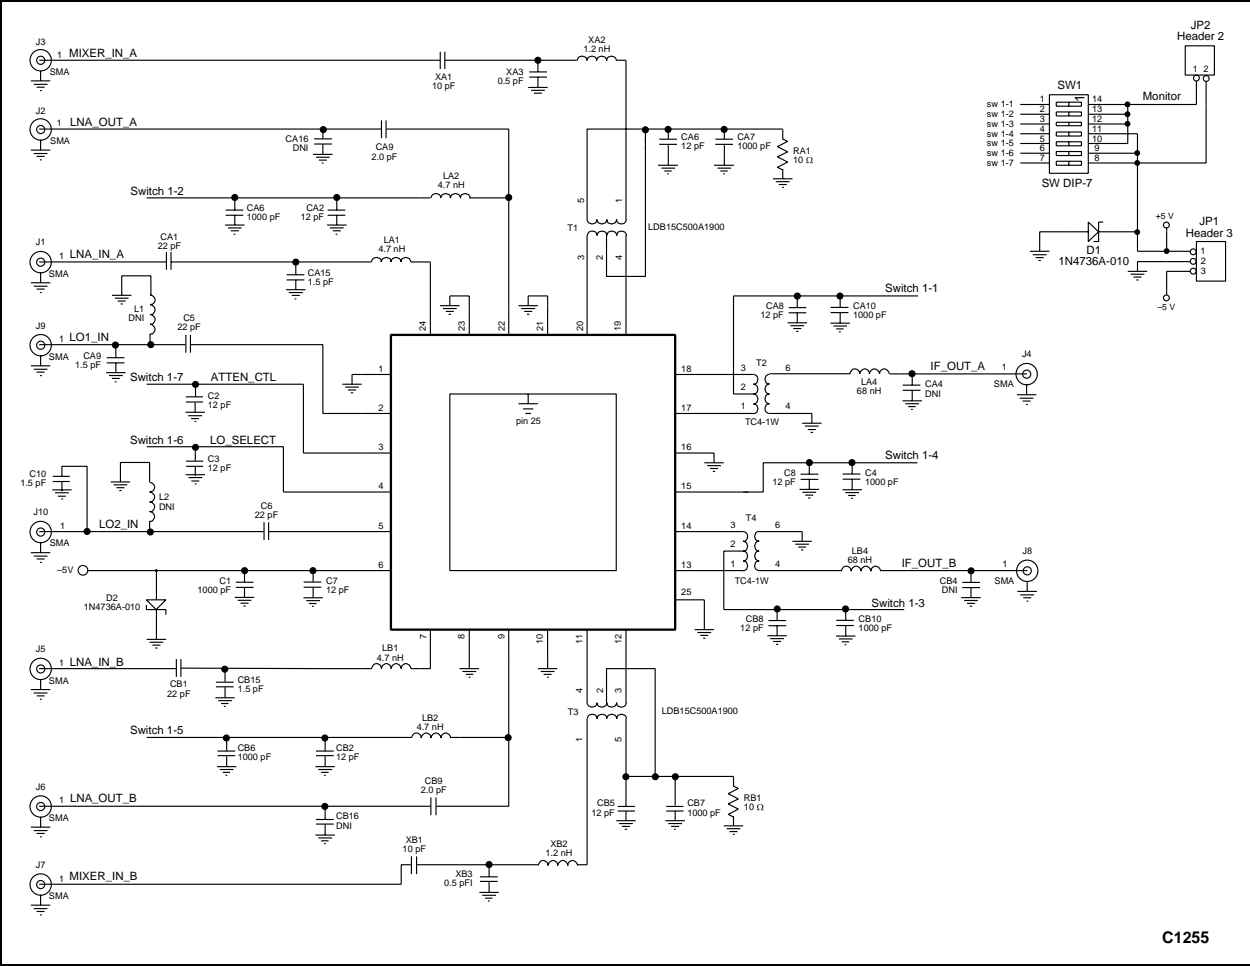
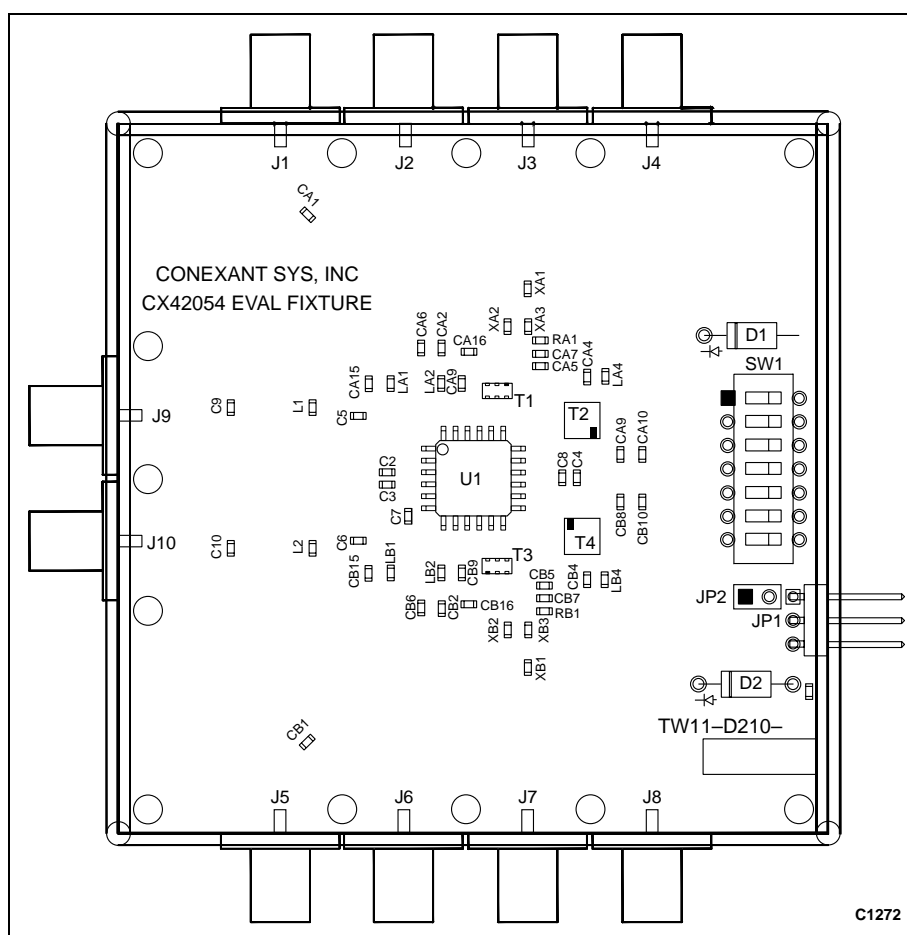

Figure 10. CX42054 Application Schematic
Figure 11. CX42054 Evaluation Board Layout
Note 1: In a 50 Ω system obtained with external matching components on input/output ports. See Figure 10 and Table 6 for matching network configuration and element values. Note 2: Include RF balun and IF transformer losses.
Note 1: In a 50 Ω system obtained with external matching network on LNA and mixer input ports. See Figure 10 and Table 6 for network elements and frequency ranges.
The CX42054 Evaluation Board is used to test the CX42054 mixer and LNA performance. The CX42054 Evaluation Board schematic diagram is shown in Figure 10. Table 6 contains I/O matching network components used in the schematic. The schematic shows the basic design of the Evaluation Board for the RF range of 1800 to 2000 MHz. The IF matching circuitry has been optimized for 100 to 200 MHz. Figure 11 displays the Evaluation Board layout.
3. The inclusion of external bypass capacitors on the VSS and VDD voltage inputs of the LNAs and mixers is recommended. The application schematic in Figure 10, shows these capacitors (1000 pF and 12 pF) in shunt with each control switch, as well as the VSS supply. The 1000 pF capacitor serves as a low frequency bypass, while the 12 pF capacitor prevents any RF signals from coupling on to the DC supply voltages. It is recommended that the bypass capacitors be placed as close as possible to the CX42054 for best results.
Note 1: Standard Evaluation Kit TW10-D212 is optimized for the 1800 to 2000 MHz frequency range. The schematic diagram shown in Figure 10 applies to Evaluation Kit TW10-D212.